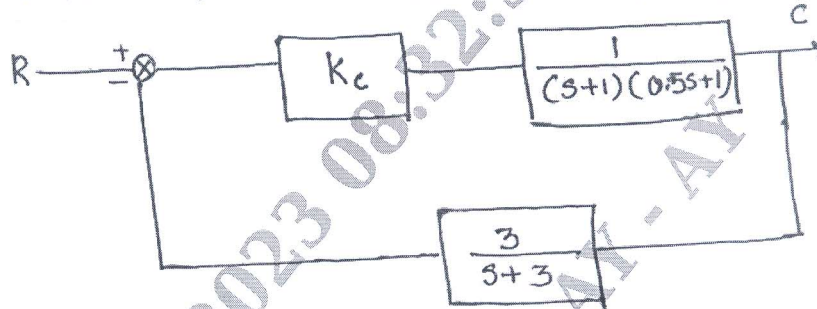

Fig. Q9 (b)
b. Write the characteristics equation and construct the Routh Array for the control system shown in Fig. Q9 (b). Is the system stable for, (a) $K_C = 9.5$, (b) $K_C = 11$ (c) $K_C = 12$